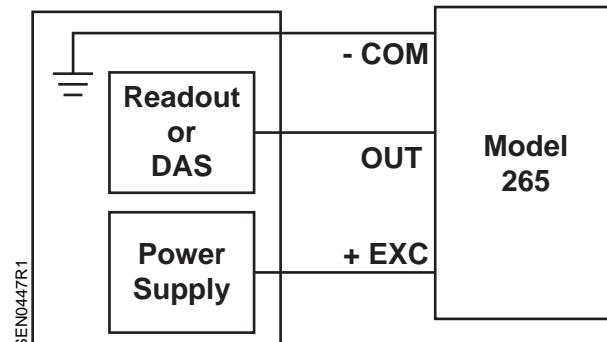

**Figure 1.**
4. Connect the field wiring to the sensor terminals. See Table 1 and Figure 1.
5. For conduit-mount installations, provide strain relief by securing the wiring to the mounting bracket and reinstall the shroud. See Figure 1.
The voltage output version has a three-wire circuit with three wiring terminals (COM, OUT and EXC). See Figure 1.
While monitoring the voltage between the positive output (OUT) and common (COM), and with both pressure ports open to atmosphere, the zero may be adjusted by turning the zero adjustment screw. (See Figure 1.) For 0 to 10 Vdc output units, the factory
To adjust span or full-scale output, use only an accurate pressure standard (such as an electronic manometer or digital pressure gauge) with at least twice the accuracy to this unit ( $<\pm 0.5\%$  FS). With full range pressure applied to the high pressure port (reference port open to atmosphere), adjust the span by turning the SPAN adjustment screw. (See Figure 1.) For 0 to 10 Vdc output units, the factory settings are 10 Vdc ( $\pm 100$  mV) for unidirectional and bi-directional ranges.